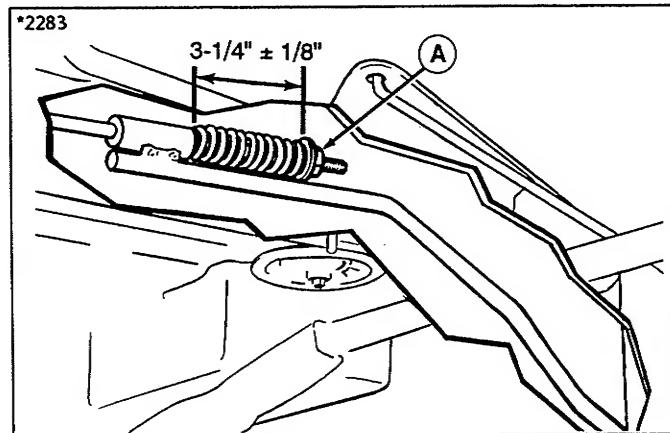

Figure 36. Gear Models
2. The spring should be compressed to 3-1/4" ($\pm 1/8"$). Turn adjustment nut (A, figure 36) as necessary for correct spring length.